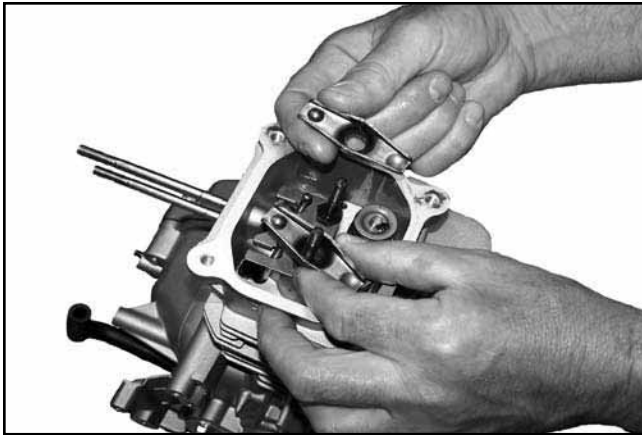

Figure 8-36. Removing Rocker Arms.
1. Noting orientation, lift the rocker arms off of the rocker studs. See Figure 8-36.